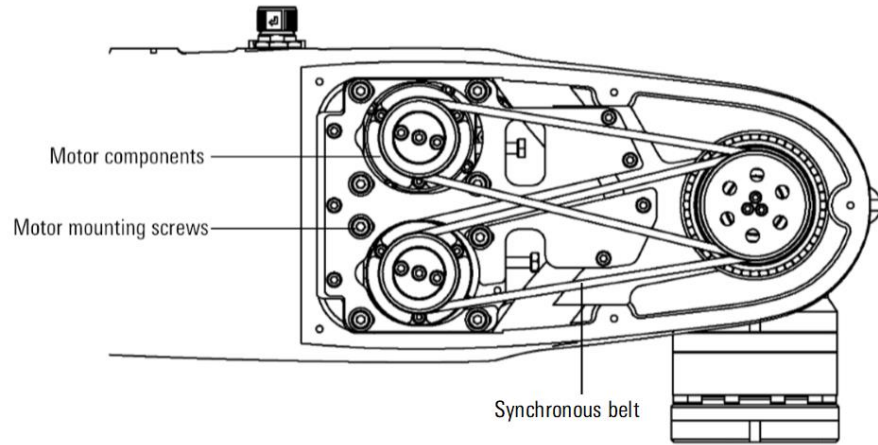

Figure 9-6 Remove the timing belt
- Step4. Loosen the mounting screws of the motor assembly, as shown in Figure 9-6.